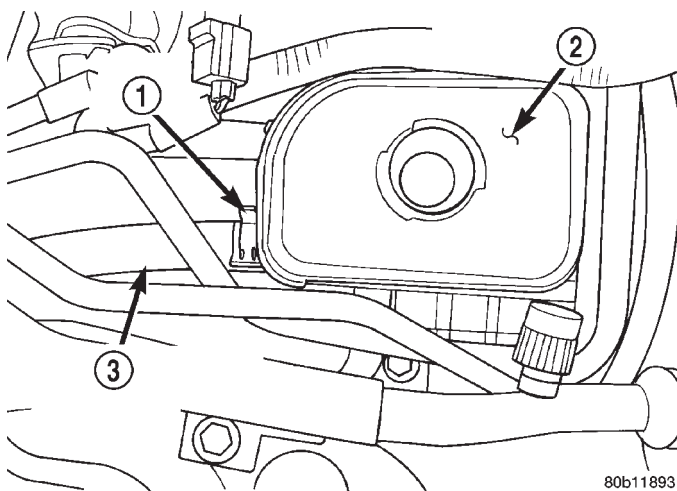
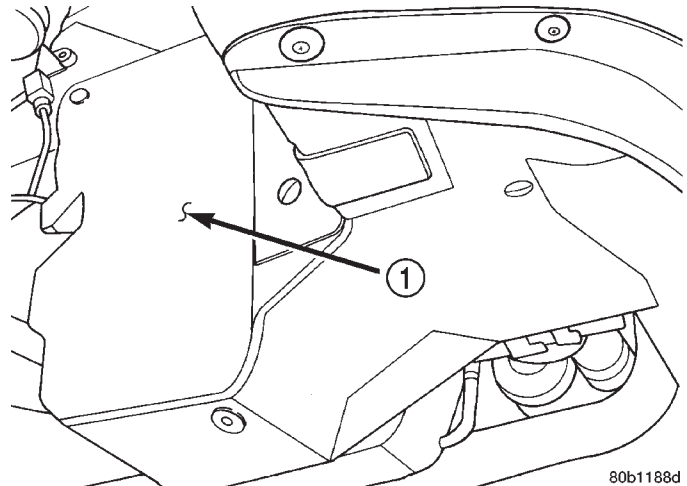

Fig. 3 Supply Hose At Power Steering Fluid Reservoir
Fig. 4 Accessory Drive Splash Shield
(1) Remove battery cable from (-) negative post on battery and isolate cable.
(2) Siphon as much power steering fluid as possible out of the remote power steering fluid reservoir.
(3) Remove the power steering fluid supply hose from the power steering fluid reservoir (Fig. 3). Fluid supply hose will be removed with the power steering pump.
- (4) Raise vehicle.
- (5) Remove right front tire from vehicle.
- (6) Remove accessory drive splash shield (Fig. 4).
(13) Install accessory drive splash shield (Fig. 4).
(14) Install wheel and tire. Tighten the wheel lug nuts in proper sequence until all lug nuts are torqued to half specification. Then repeat tightening sequence to full specified torque of 129 N·m (95 ft. lbs.).
(15) Lower vehicle.
(16) Install power steering fluid supply hose (Fig. 3) on power steering fluid reservoir fitting. Install hose clamp on hose. Be sure hose clamp is installed on hose past upset bead on power steering fluid reservoir.